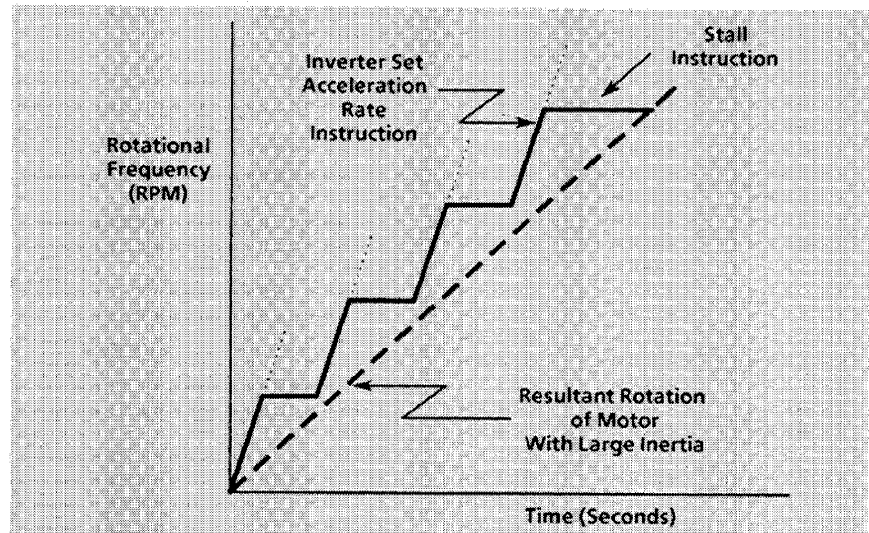

Figure 5-7. Acceleration Overcurrent Stall Protection
**ON \*** – The overcurrent stall protection circuit will stop Drive acceleration if the motor current exceeds 140% of the rated output. When the current drops back below the 140% level, the acceleration will resume. In this way, the circuit will guard against, in most cases, overcurrent trips when the acceleration rate is too fast for the inertia of the system (refer to Figure 5-7).